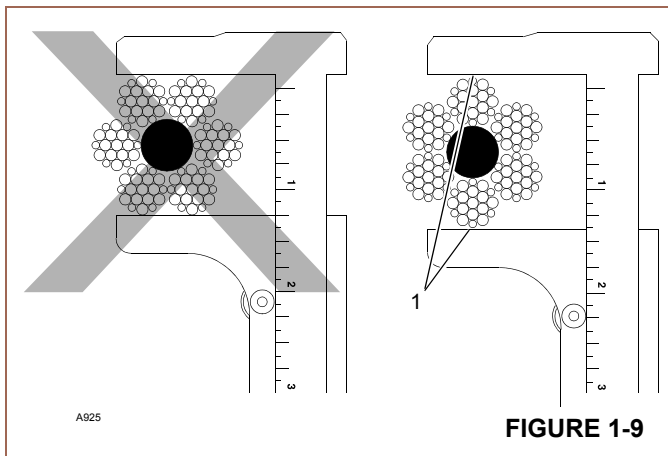

FIGURE 1-9
12. Measure the rope's diameter across crowns (1) of the strands when determining if rope has become damaged (Figure 1-9).